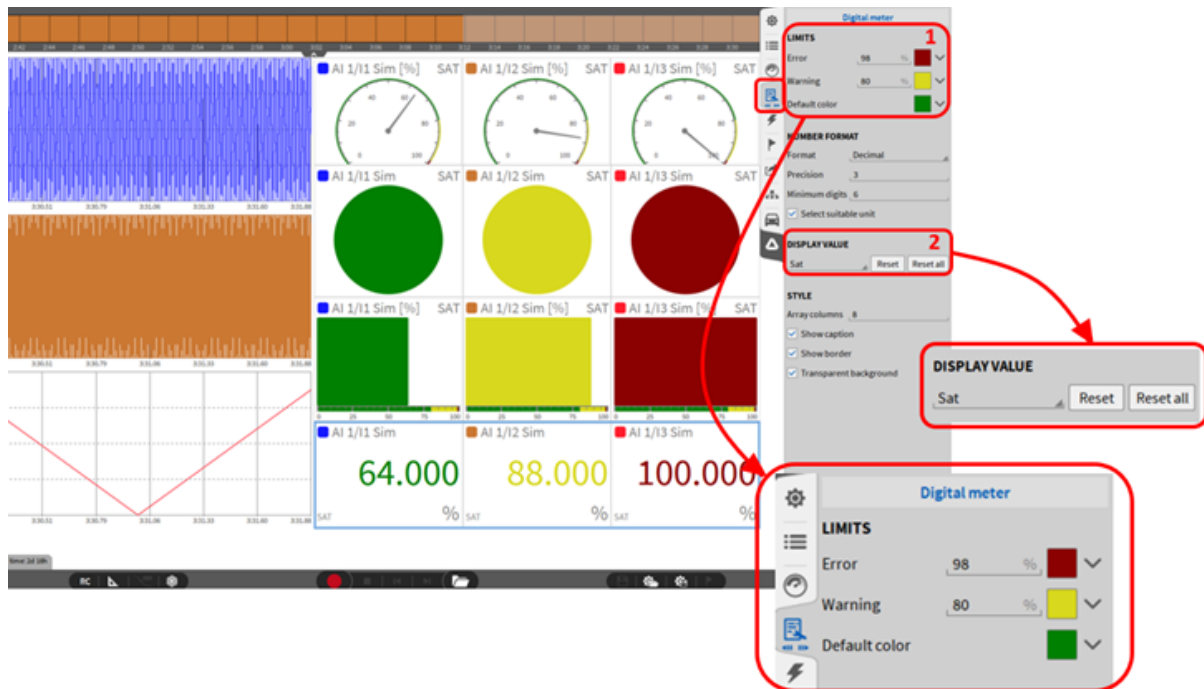

Fig. 8.14: Saturation visualization of channels
After adding one of the previously listed instruments to the measurement screen, the “Sat” (saturation) mode must be selected as the display value in the settings of the respective instrument. (see ② in Fig. 8.14 ). By pressing the “Reset” button, the selected instrument will be reset, by pressing “Reset all”, all saturation displays will be automatically reset (instruments other than the selected instrument too). After selecting the display value “Sat”, the colors as well as the limit values for the display can be changed if required (see ① in Fig. 8.14).